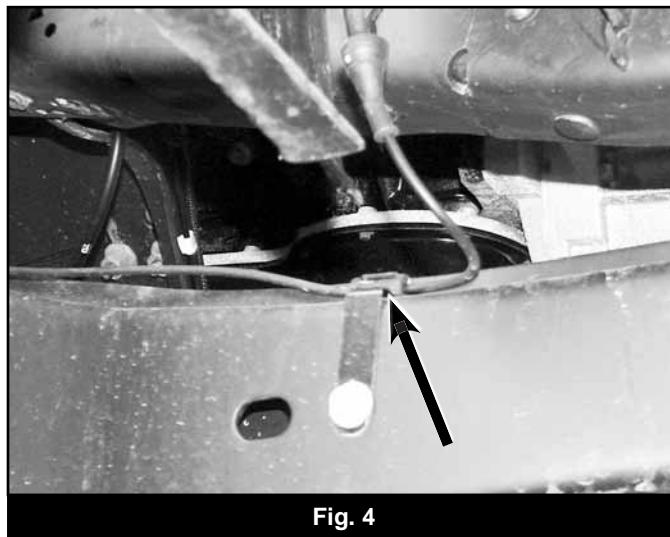
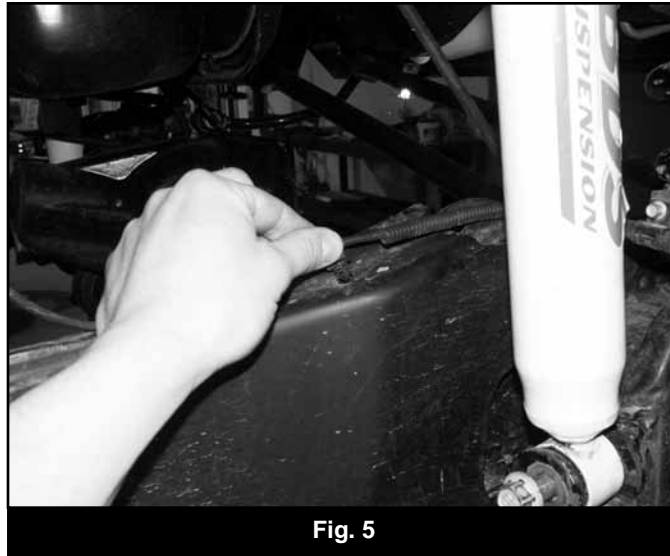

Fig. 4
Fig. 5
17. Remove the ABS line from the metal retaining tab on the radius arm (Fig 4). Carefully pull the plastic retaining clip free from the radius arm (Fig 5).